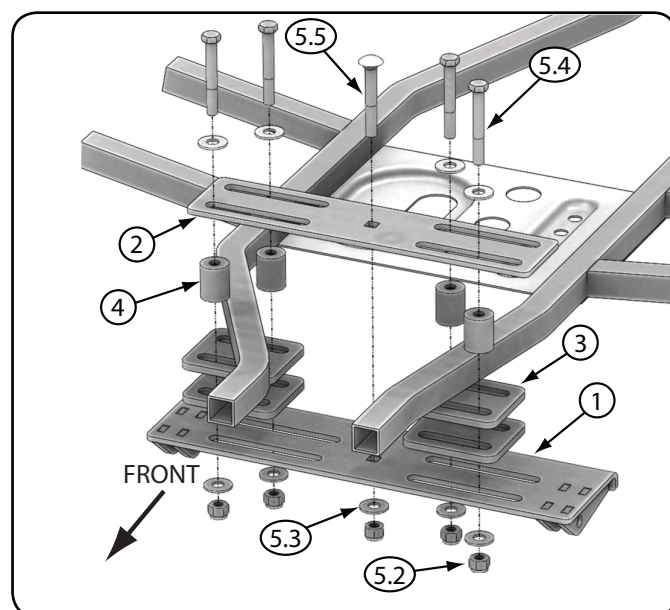

Figure 25 - Hybrid Mount Sportsman Install
4. Loosely install the upper mount plate (2), 4 spacer plates (3) and lower mount plate (1) using the rubber spacers (4),  $\frac{3}{8}$  in. (9.5 mm) bolts (5.4),  $\frac{3}{8}$  in. (9.5 mm) carriage bolt (5.5), nuts (5.2) and washers (5.3) provided with your mount. See Figure 25.